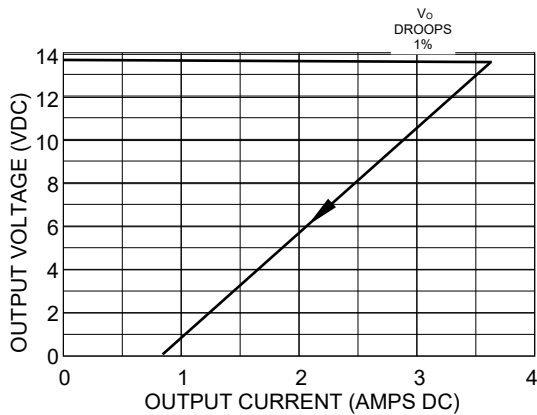

Figure 8. PS-15D-1 Output Current Limit of engineering prototype. Arrows indicate current change as the output Load Resistance decreases.
4. Current limit is a function of output voltage - see Figures 8 and 9 for current limit vs output voltage.
However, when output current becomes sufficient to bias on Q202, it will begin to conduct and take control of the loop (current regulation). R209 and R210 provide an emitter bias that is a function of the output voltage. This emitter bias will lower the effective current limit as the output voltage drops and therefore effects a current fold-back which protects the pass transistors. Note also, setting the output voltage lower than 13.8 VDC lowers the initial output current limit by the ratio shown in the fold back curves, see Figures 8 and 9 .